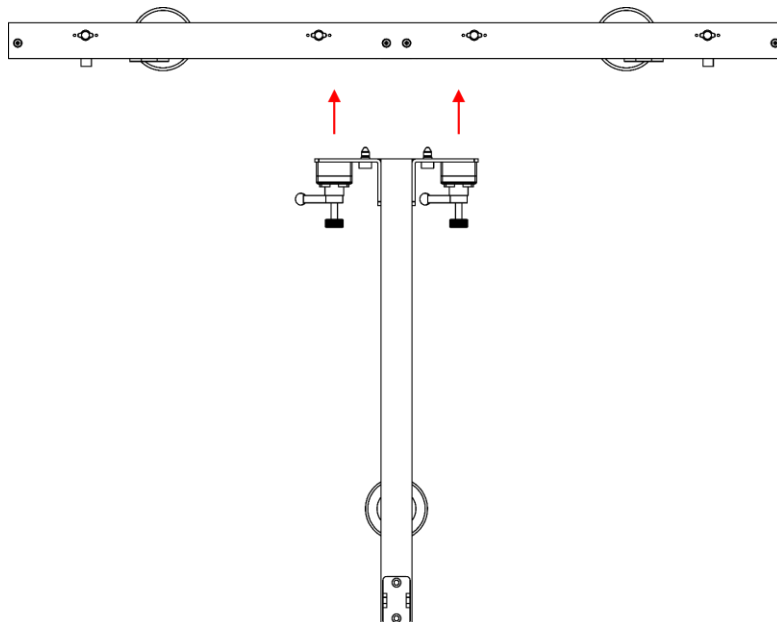

Fig. 08
- 01) Insert the **mounting pins (13)** of the **rear frame (D)** into the openings of the **bottom frame (C)** (Fig. 08).